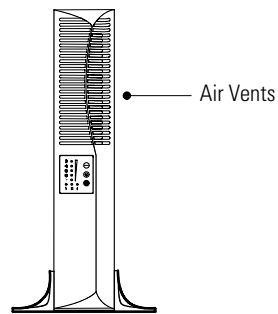

Figure 8. Pedestals with One Cabinet
4. Carefully position the cabinet upright with the air vents at the top (see Figure 8).